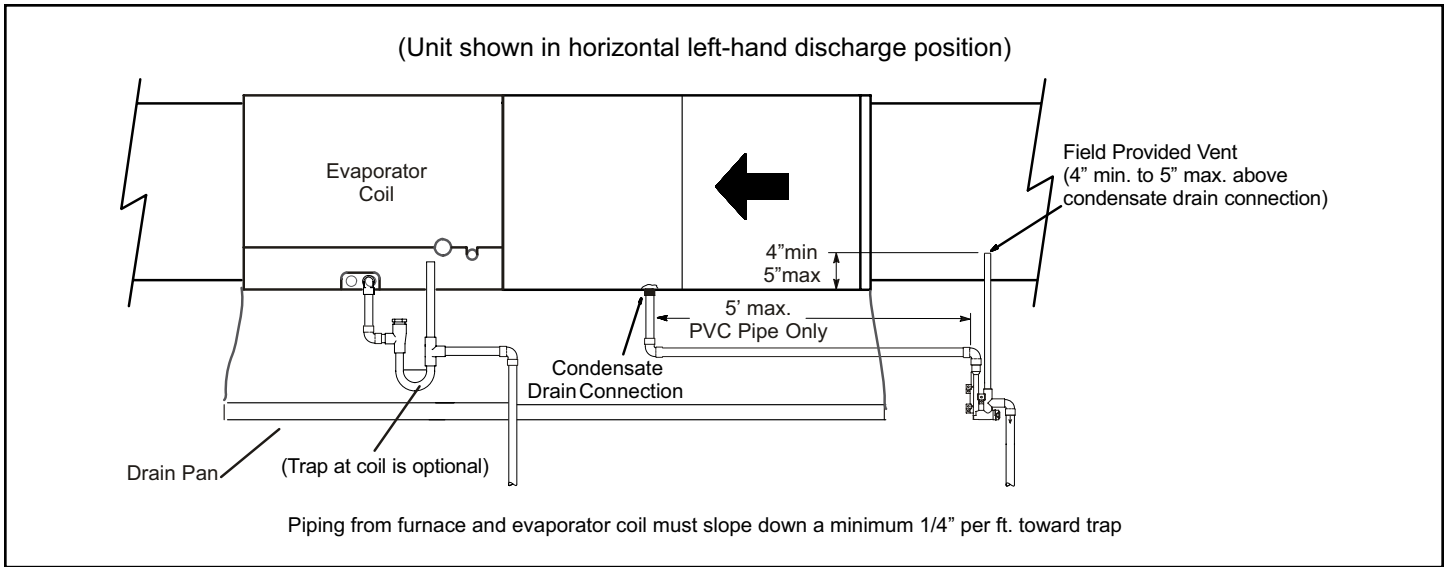
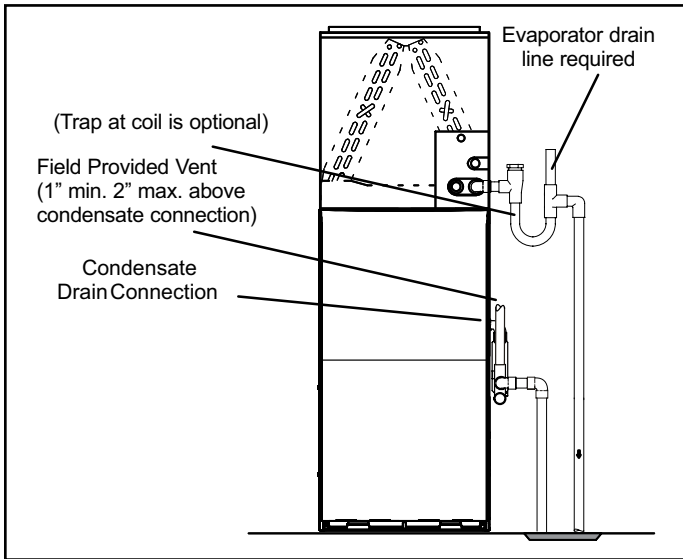

Figure 54. Furnace with Evaporator Coil Using a Separate Drain
Figure 55. Furnace with Evaporator Coil Using a Separate Drain
5. Figure 54 and Figure 55 show the furnace and evaporator coil using a separate drain. If necessary the condensate line from the furnace and evaporator coil can drain together. See Figure 53 and Figure 54.
Horizontal furnace (Figure 54) - In horizontal furnace applications the field provided vent must be minimum 4" to a maximum 5" length above the condensate drain outlet connection. Any length above 5" may result in a flooded heat exchanger if the combined primary drain line were to become restricted.